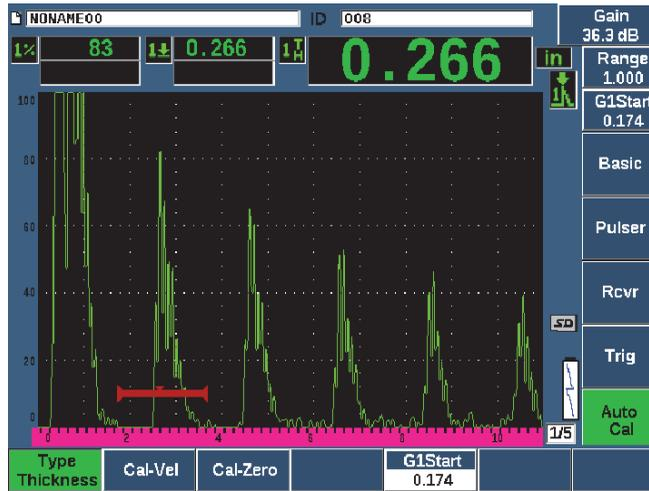

Figure 3-13 The Auto Cal menu
4. Choose the **Auto Cal** menu item (see Figure 3-13 on page 63).